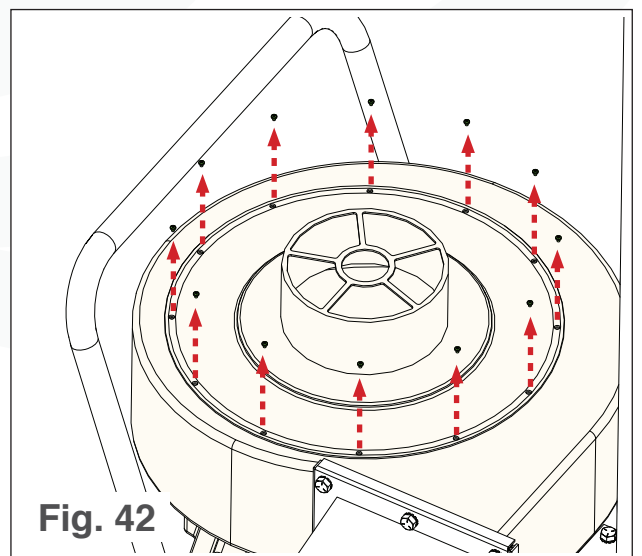

Fig. 42
- b. Remove the 12 screws on the top of the motor assembly (see Fig. 42).